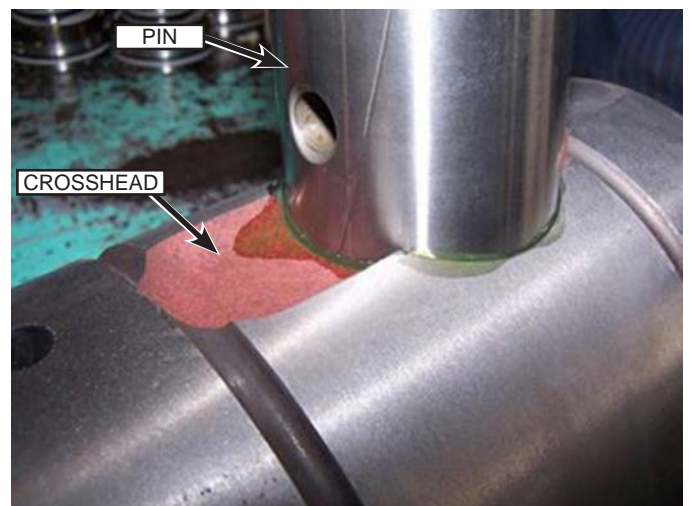

Fig. 147: Pin Placement
5. Lubricate the pin (Fig. 147) with clean oil and insert the pin into the hole in the side of the crosshead.